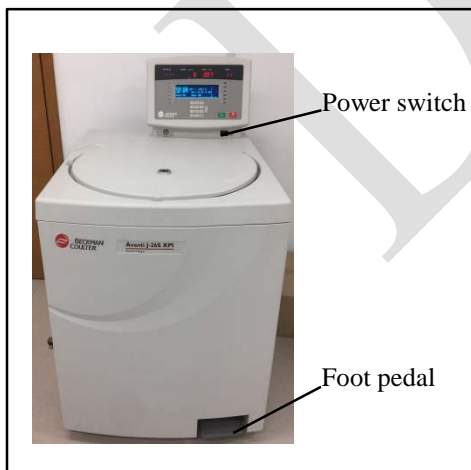

Fig. 2 Centrifuge
5.1.2 Depress the foot pedal to open the chamber door (fig.2).